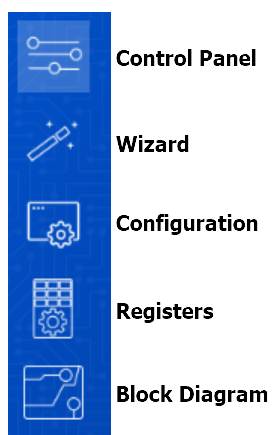

Figure 28. RICBox GUI Menu Buttons
7. Use the side panel menu buttons (see Figure 28) to navigate through the GUI for all five separate pages.